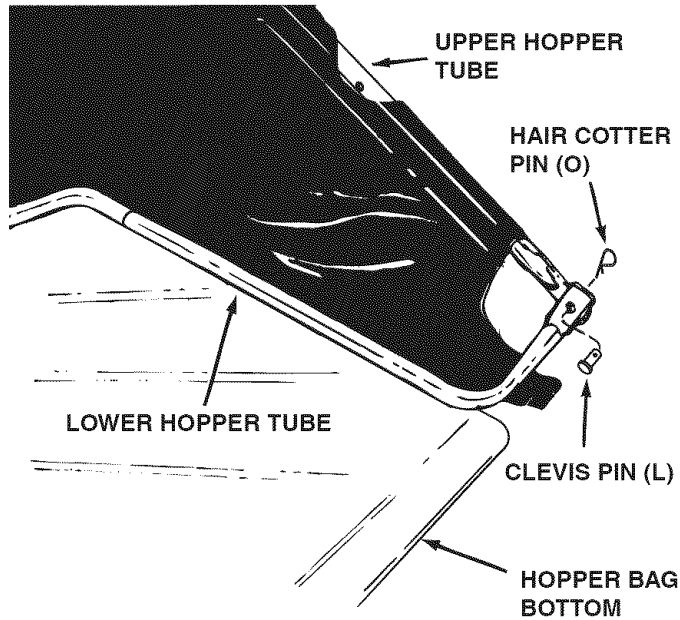

FIGURE 11
- Place the assembled lower hopper tubes into the bottom of the hopper bag and then slide the tubes to the back of the bag. See figure 11.
- Attach the ends of the lower hopper tubes to the **inside** of the upper hopper tubes using two clevis pins (L) inserted from the inside, and two hair cotter pins (O). See figure 11.